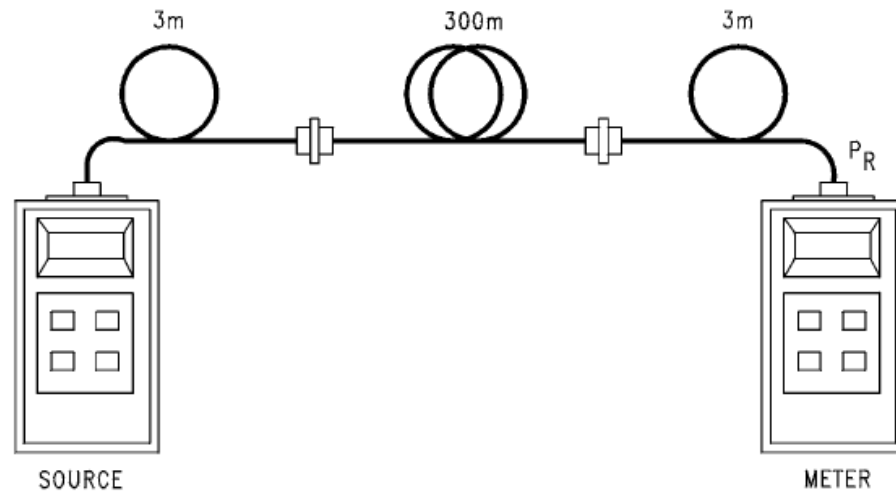

fig. 4.25
With our *Educational Panel* we can use the configuration of fig. 4.25 that uses the 300 meters of fiber contained into the panel that are accessible only with the two ST-ST adapters in the same panel.
- With two connectors and the two fibers, insert the 300 meters of 62.5/125 optical cable (fig. 4.25) and read the new received power ***Pr***.